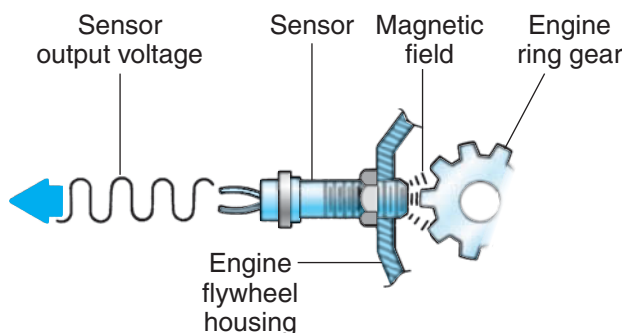

Figure 14-5 Induction pulse generator shaft speed sensor. (Courtesy of Navistar)
Their operation is simple enough. A toothed disc known as a **pulse wheel**, tone wheel, or **chopper wheel** is connected to the rotating component. The pulse wheel is manufactured with evenly spaced teeth. As the wheel rotates, it is driven through a stationary magnetic field. This induces an alternating current (AC) voltage in the signal circuit as the magnetic field builds and collapses. The analog AC voltage pulses that are generated are signaled to the ECM. The ECM is not so much interested in the actual voltage value as the frequency. The faster the pulse wheel rotates, the higher the frequency of the wave signal produced. The frequency is used to identify a specific rotational speed. **Figure 14-5** shows the operating principle of an induction pulse generator.